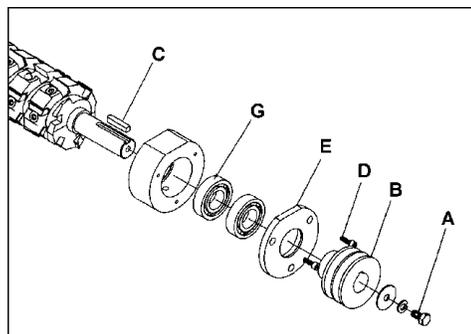

Figure 27
7. Loosen lock screw (A, Figure 27) and remove pulley (B, Figure 27) and key (C, Figure 27).
8. Take down screws (D, Figure 27) on both sides and remove bearing cap plates (E, Figure 27).
IMPORTANT: If the bearings (G, Figure 27) need replacement, Powermatic strongly recommends this be done by qualified service personnel. The bearings are press fitted and must be removed with an arbor press.